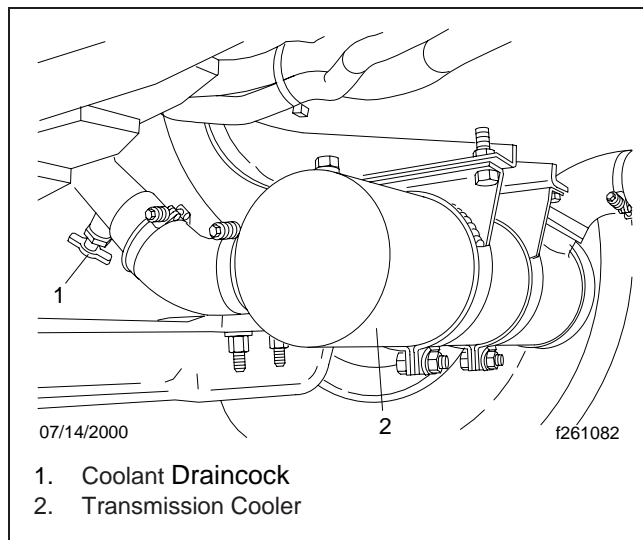

Fig 5, Coolant Draincock
4. Open the draincock located at the heat exchanger. See Fig. 5. Allow the coolant to drain.